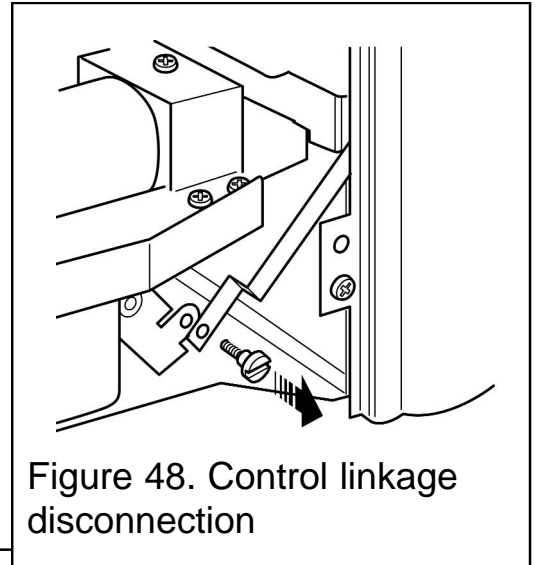

Figure 48. Control linkage disconnection
2. Detach the control-linking bar from the control pivot bracket by removing the knurled screw, which joins the control linking bar to the control pivot unit (See figure 48).